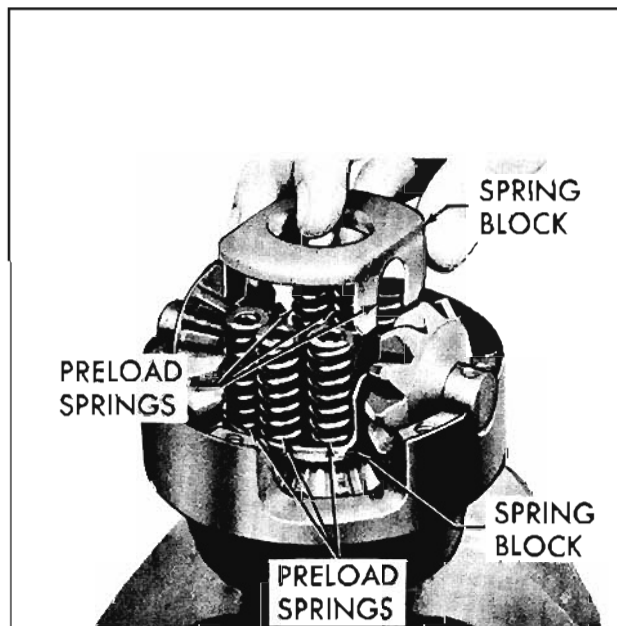

Fig. 10-137 Installing Preload Springs
5. Insert springs into spring thrust block that is already installed into case, and then place second thrust block over springs. (Fig. 10-137)